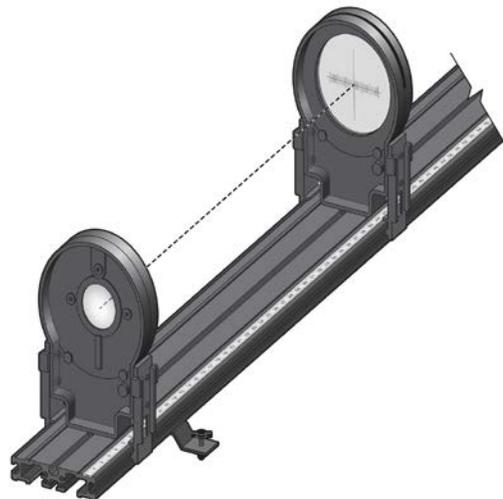

Figure 1
1. Place the viewing screen from the Optics Expansion Kit at the 10 cm mark on the Vernier track. Then place the 10 cm double convex lens somewhere around the middle of the track (see Figure 1).